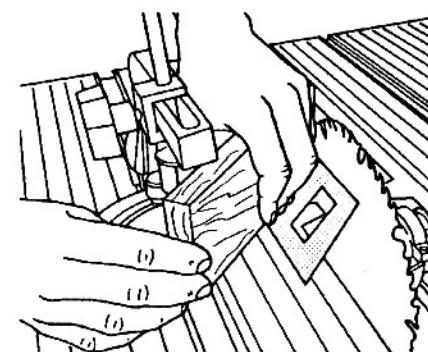

Fig. B-44
46. Place a straight, precision-cut board against the miter gauge. Use a 45° miter square to set the miter gauge face at 45° to the saw blade, as seen in Fig. B-44. If the 45° stop needs adjustment, use a medium screwdriver to back out the 45° screw 2 to 3 turns.